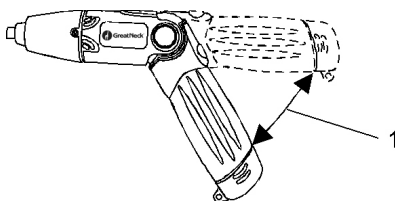

Fig. 4
To pivot the handle, simply “bend” the tool in the middle to the appropriate angle (1) (Fig. 4)